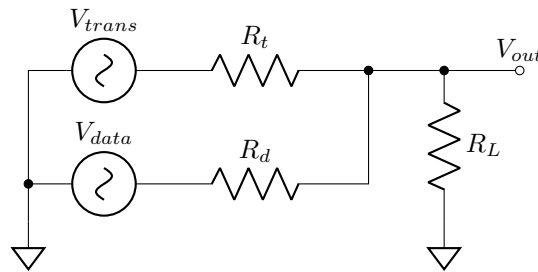

Figure 2: General principle schematic of a radio transmitter
knows that a cosine wave is just a sine wave with a phase shift of $\pi/2$, or 90° . Examples of the common wave forms used, Sine, Triangle, and Square waves, can be found in Figure 2. For all intents and purposes of this lab, waves generated will be considered periodic, where the same pattern repeats continuously. This allows us to use similar equations regardless of the shape of the wave and makes analysis more direct.
1. Using the schematic in Figure 2, calculate the RMS output voltage and power loss of a superimposed signal with a $2V_{pp}$, $+2V$ offset, $50Hz$ transmission sine wave and loading resistance of $10k\Omega$, and a $5V_{pp}$, $1Hz$ **triangle** data wave with a loading resistance of $5.6K\Omega$. The output load will have a resistance of $56K\Omega$.
1. Create the circuit from Figure 2 with the values used in the Prelab. Don't forget about your common grounds!